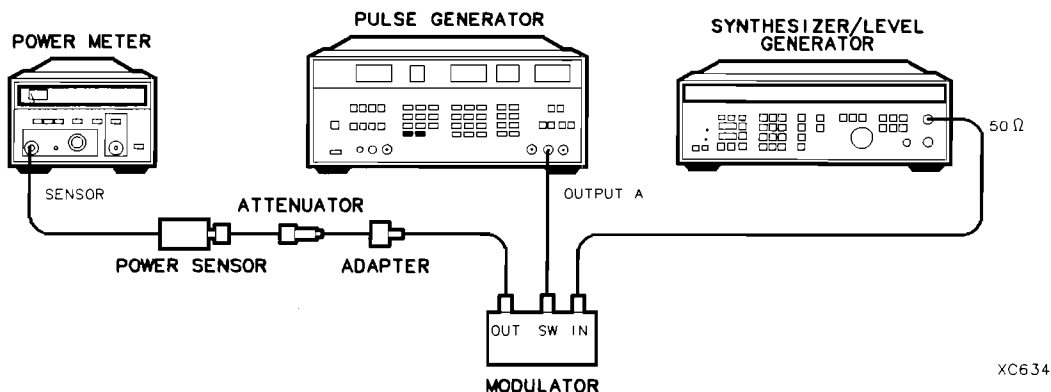

Figure 2-101. Input Amplitude Calibration Test Setup
2. Connect the equipment as shown in Figure 2-101.